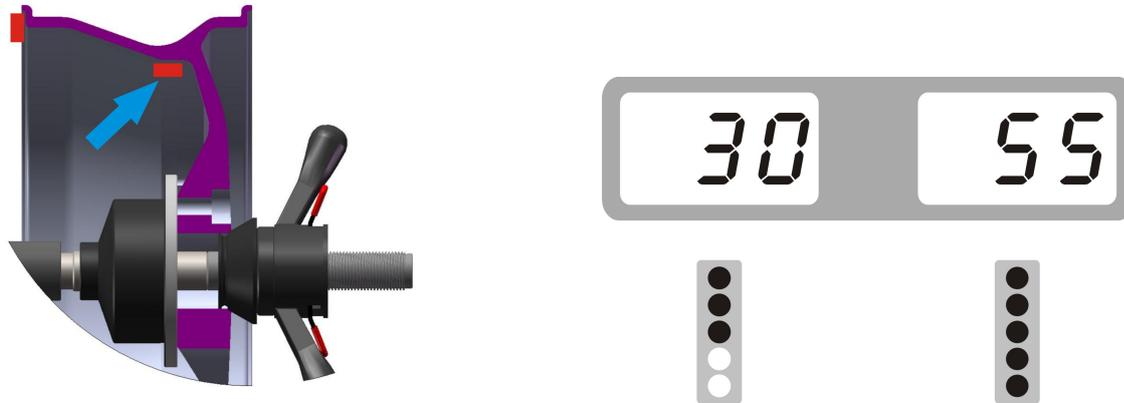

Fig. 6
4.2.5. Anticlockwise moving wheel slowly, the displays with right LED's lit up full indicate the correct angular position where to mount the counterweights, (las=on,las=off) position outside, as Fig.6, add the counterweight.